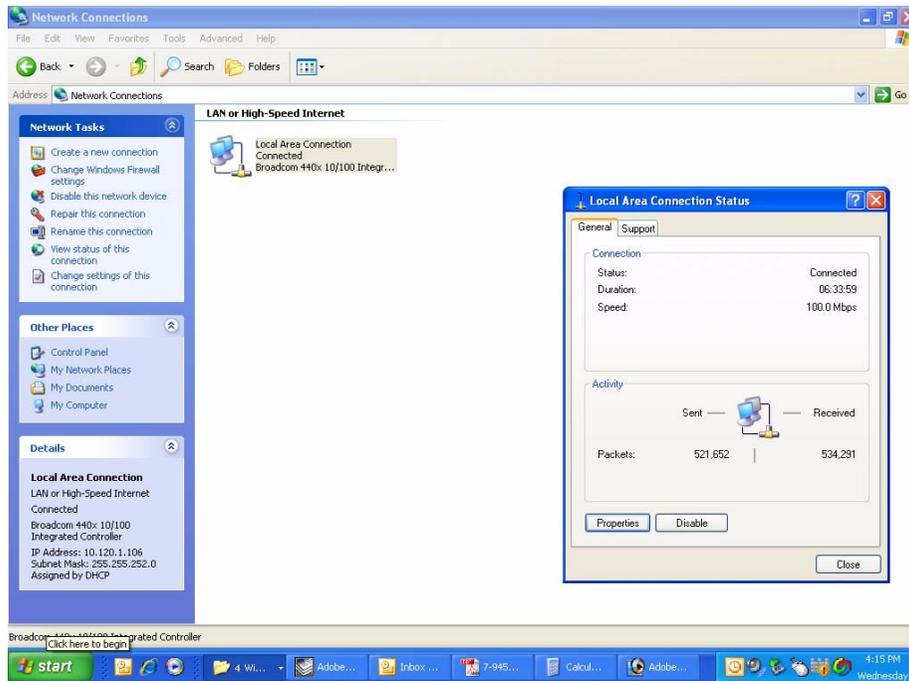

Figure B4: Select the “Properties” tab.
- 5) The “Local Area Connection Status” box will open. Single click the “Properties” tab as shown in **Figure B4**. **Note:** If you do not have the cable connected between the service computer and the booster front panel the “Local Area Connection Status” box will not open. Instead proceed to step 6.